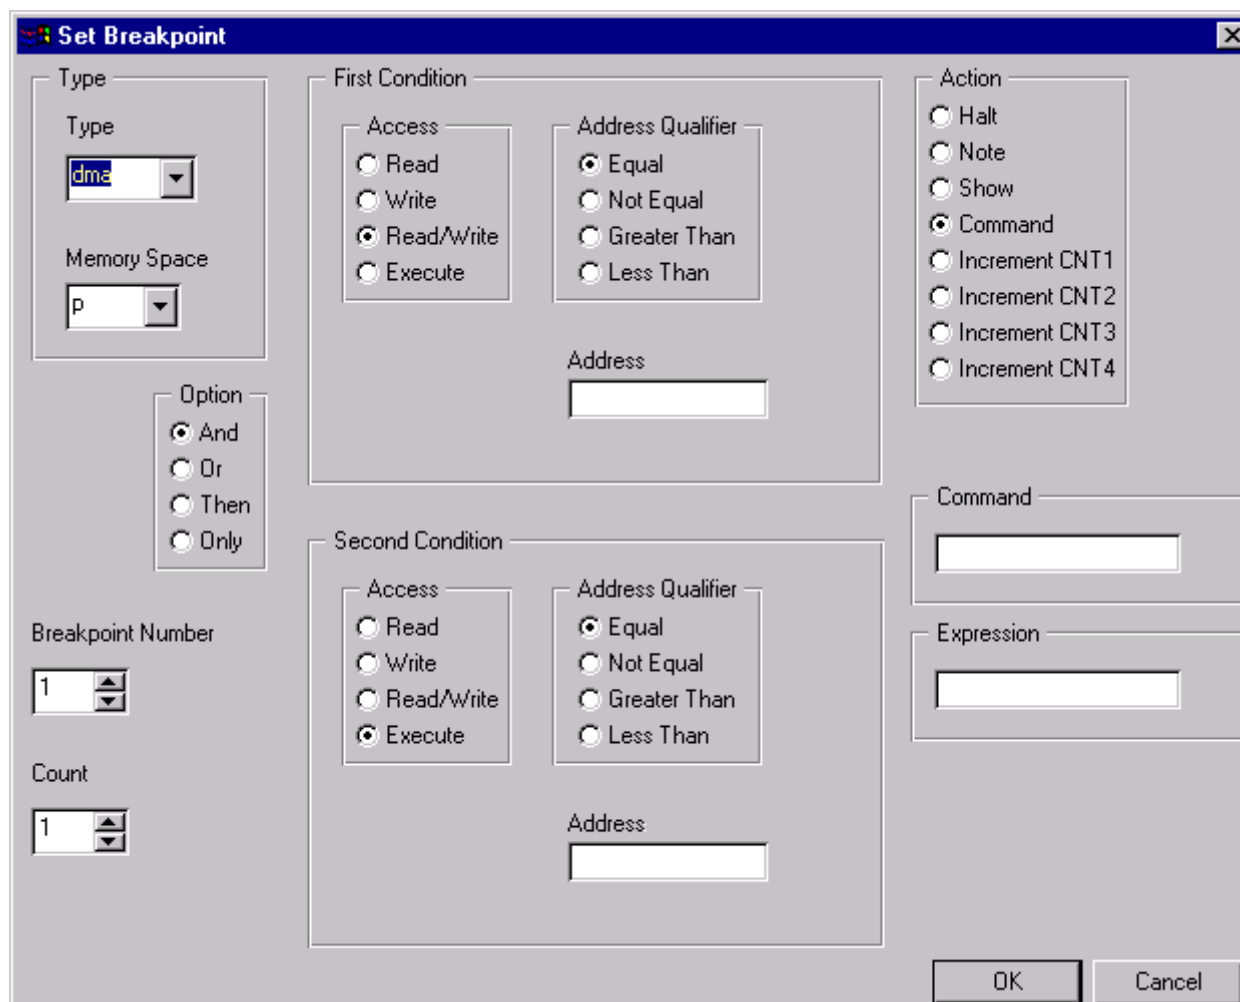

Figure 3-7. Setting a Hardware Breakpoint
1. From the **Execute** menu, choose **Breakpoints**, then select **Set Hardware**. The dialog box in Figure 3-7 appears.